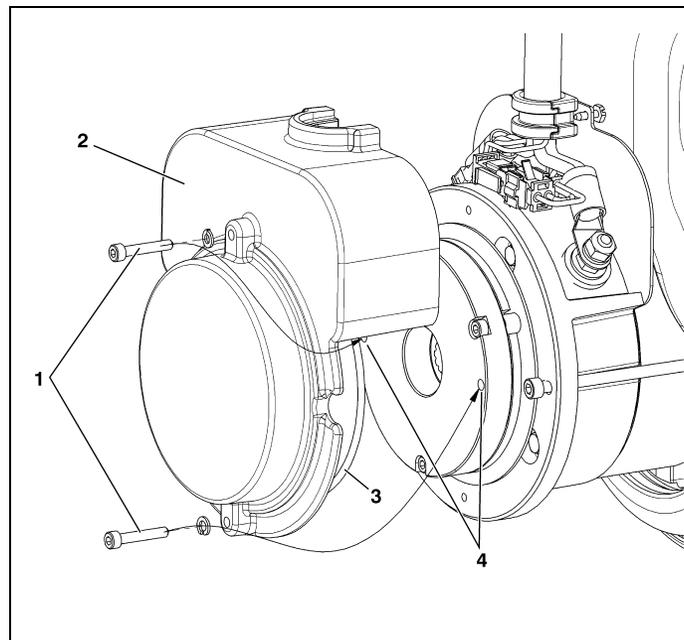

Figure 4-16. Brake - Manual Disengage.
Mechanical Brake Release (Figure 4-16.)
4. Insert the cover bolts into the **two disengage holes in the brake housing (4)**, see Item 4 in Figure 4-16., Brake - Manual Disengage.